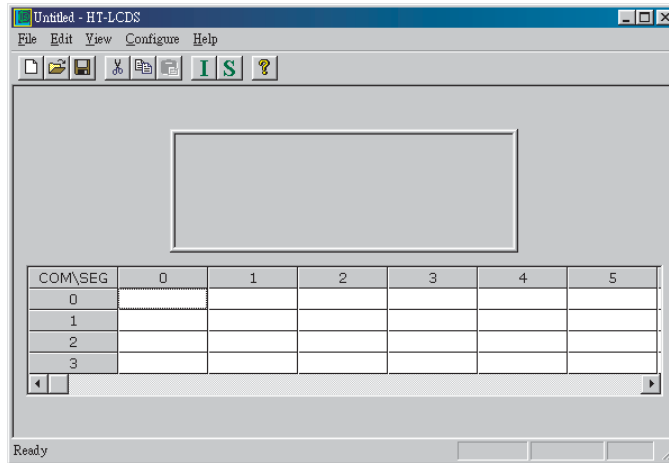
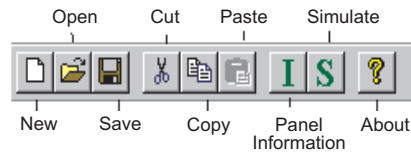
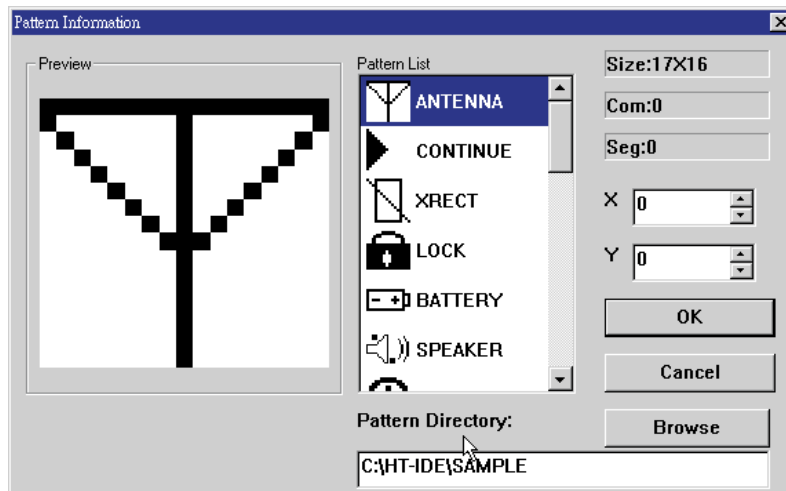

Fig 14-2
Fig 14-3
Fig 14-6
When selected from within the Tools menu, the LCD simulator as shown in Fig 14-2 is displayed if the corresponding panel configuration file of the current project exists. The file name of each bitmap pattern is shown at the specified COM/SEG position of the table. At the same time, these patterns are shown on the above panel screen. If the corresponding panel configuration file does not exist within the project directory, both the panel screen and the COM/SEG table will not be displayed. Fig 14-3 shows the HT-LCDS menu bar information.
To setup the panel configurations by selecting the HT-LCDS File menu, New command. The Panel Configuration dialog box (Fig 14-4) will be displayed. Setup the correct LCD driver data, COM/SEG number, Width, Height and Directory of the pattern, then press the [OK] button. After setting up the panel configuration, the system returns to Fig 14-2 for pattern selection.
- To create a new panel configuration file using the HT-LCDS File menu New command. After having set the panel configuration, Fig 14-2 is displayed. The user then has to select the patterns from the Pattern Information dialog box (Fig 14-6) and set the COM/SEG positions. The section, Add a new pattern, describes the procedure in detail.
- To open an existing panel configuration file using the HT-LCDS File menu Open command. The patterns are displayed as shown on the panel screen in Fig 14-2 and the pattern file names are displayed as shown in the Fig14-2 COM/SEG table position. Users can add/delete/change the pattern information, including the pattern file and pattern positions.
- Move the cursor to a COM/SEG position on the grid as shown in Fig 14-2 and double click the mouse. The Pattern Information dialog box, as shown in Fig 14-6, is displayed. All the pattern files (.bmp) in the project's directory are listed in the Pattern List box. The Size field is the bitmap size of the selected pattern, Com and Seg fields are the numbers of the selected COM/SEG position of this pattern. None of these three fields can be modified.
- Press the [OK] button and return to Fig 14-2, then click the File menu, Save command or click the Save button on the toolbar. The panel file has now been created or modified.
- As shown in Fig 14-2, select the COM/SEG position of the pattern to be deleted and press the [Delete] key or click the Cut button on the toolbar.
- Alternatively, as shown in Fig 14-2, select the COM/SEG position of the selected pattern and double click the mouse. The Pattern Information dialog box, as shown in Fig 14-6, is displayed. Select a pattern from the Pattern List box and press the [OK] button.
- As shown in Fig 14-2, use the Select-Drag-Drop method to move the pattern directly onto the panel screen.
- Alternatively, as shown in Fig 14-2, double click the COM/SEG position of the selected pattern. The Pattern Information dialog box, in Fig 14-6, is displayed. Set the X, Y value of the new position and press the [OK] button.
When the above operations have been completed and the system has returned to that shown in Fig 14-2, click the HT-LCDS File menu, Save command or click the Save button on the toolbar. The panel file has now been created or modified.